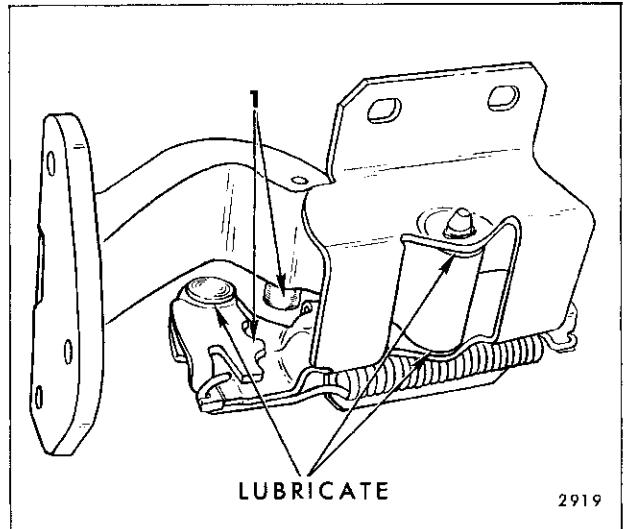

Fig. 2-3—Front Door Hinge Assembly - "B" Body Styles
2. Apply a thin coat of white lithium soap grease (Lubriplate 630 AAW or equivalent) to the pivot points and other friction areas of the front door hinge and hold-open assembly at the points indicated (Fig. 2-3).
NOTE: It is imperative that the contact surfaces of the detent roller and detent lever remain free of lubricant. Lubrication at these points indicated 1 in Figure 2-3, would result in a sliding action instead of the desired rolling action.